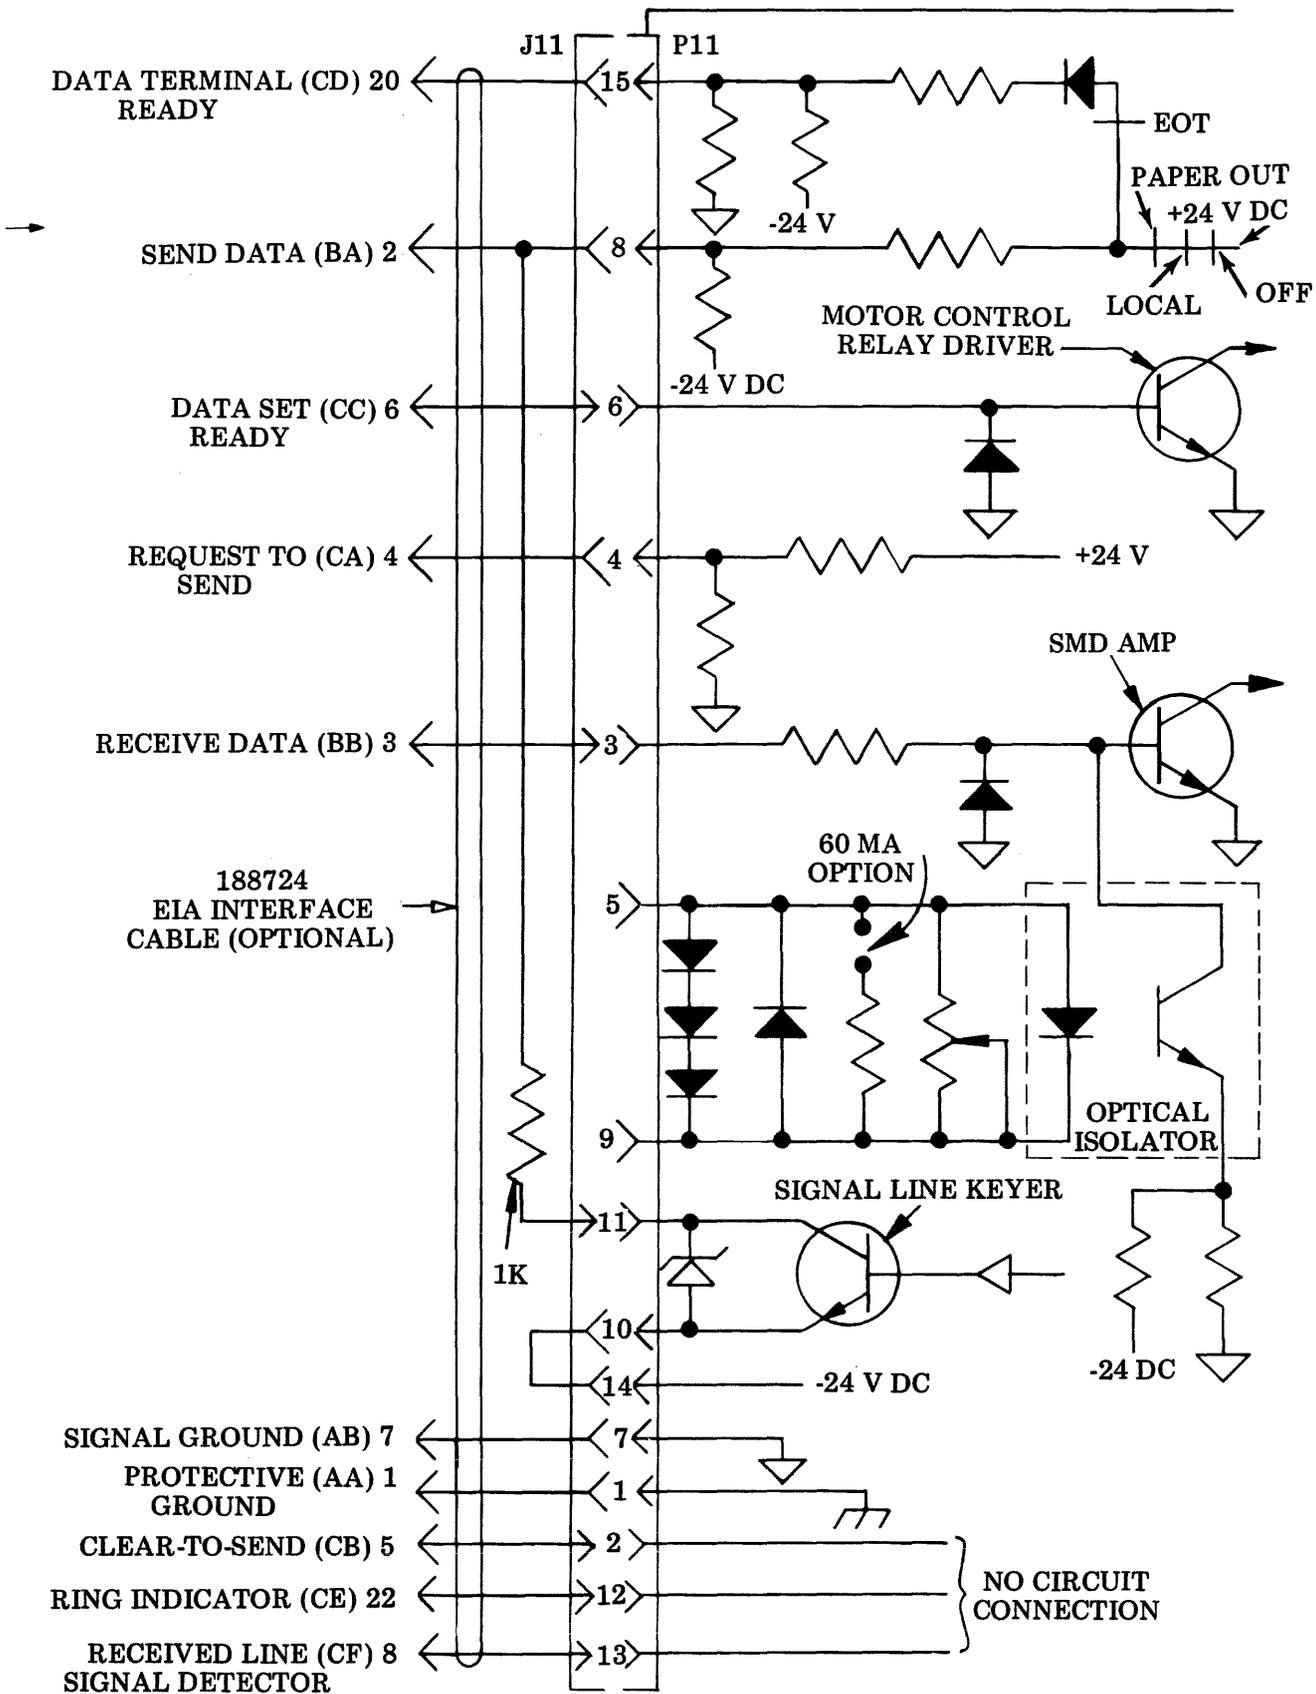

Figure 3 - Wiring for EIA Operation
2.08 Operation into an EIA device is made at P11 in accordance with the standards set up in RS-232-C. A cable can be made using a "Molex" connector according to the information supplied in Figure 3 or an optional EIA interface cable 188724 can be used. The following chart is used to describe the EIA signals present at connector P11.